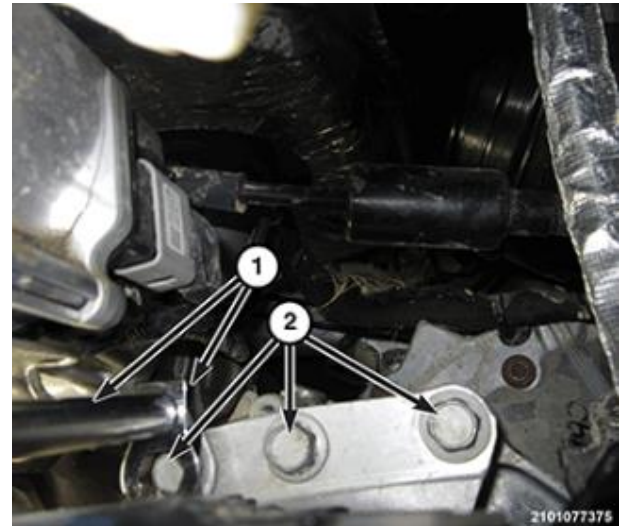

Figure 12 – Upper PTU Bolts
25. Using appropriate tools, remove the bolts holding the PTU to the transmission (Figure 12).